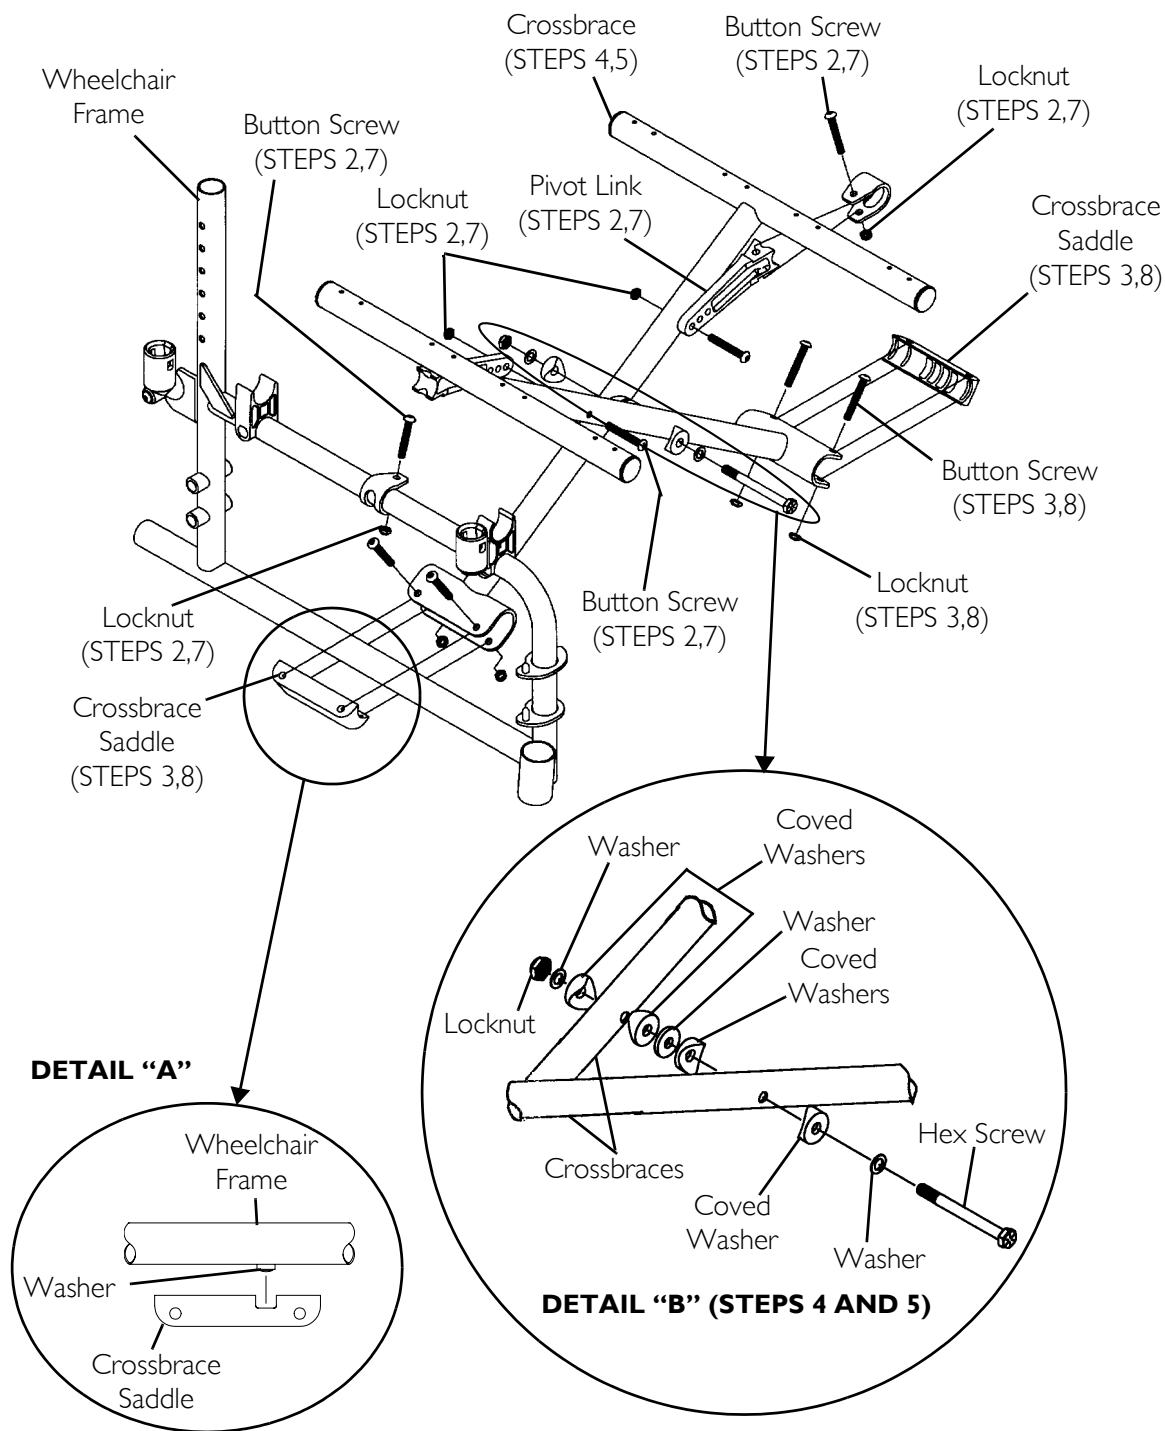

FIGURE 3.4 Adjusting Seat Width
NOTE: For this procedure, refer to FIGURE 3.4.
2. Remove the four (4) button screws and locknuts that secure the two (2) pivot links to the wheelchair frame and crossbraces.
3. Remove the two (2) button screws, locknuts and crossbrace saddle that secures the bottom of the crossbrace to the wheelchair frame. Repeat for other crossbrace.
4. Remove the hex screw, coved washers, washers and locknut that secure the two (2) crossbraces together. See Detail "B" of FIGURE 3.4.
NOTE: Make note of the orientation of the coved washers, washers and locknut for assembling the new crossbraces. Refer to Detail "B" of FIGURE 3.4.
5. Assemble the two (2) new crossbraces together with the existing hex screw, coved washers, washers and locknut. Securely tighten. Refer to Detail "B" of FIGURE 3.4 for hardware orientation.
NOTE: Position crossbrace saddle on wheelchair frame using the washer on the underside of the wheelchair frame as a reference. Refer to Detail "A" of FIGURE 3.4 for proper positioning of the crossbrace saddle.
8. Reinstall the two (2) button screws, locknuts and crossbrace saddle that secure the bottom of the new crossbrace to the wheelchair frame. Refer to Detail "B" of FIGURE 3.4 for hardware orientation. Repeat for opposite crossbrace. Securely tighten.